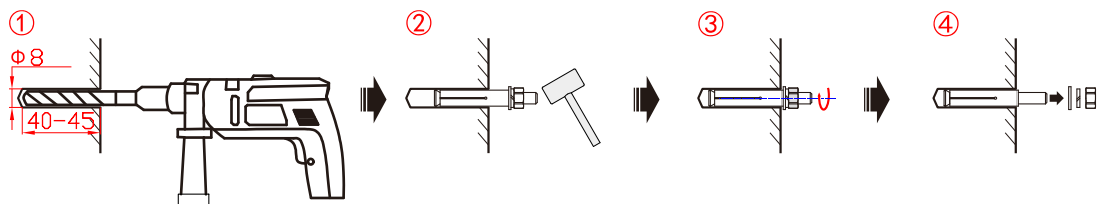

Figure3-7 Insert the expansion plugs (unit: mm)
Step 5 Fix the base module to the installed floor, as shown in Figure3-7.